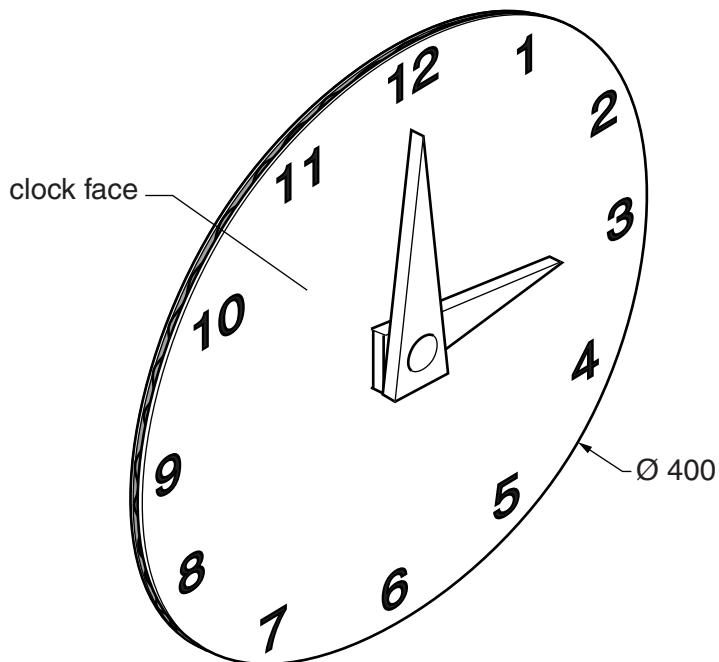

Fig. 4
- 3 Fig. 4 shows a teaching aid to help children tell the time.